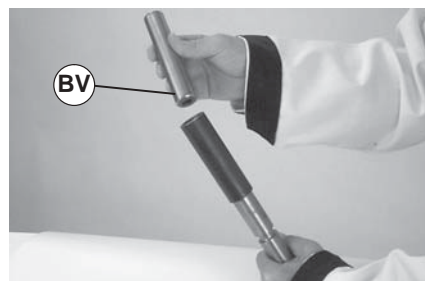

Figure 39
4. Place open end of pusher (Figure 39, item BV) into sleeve.